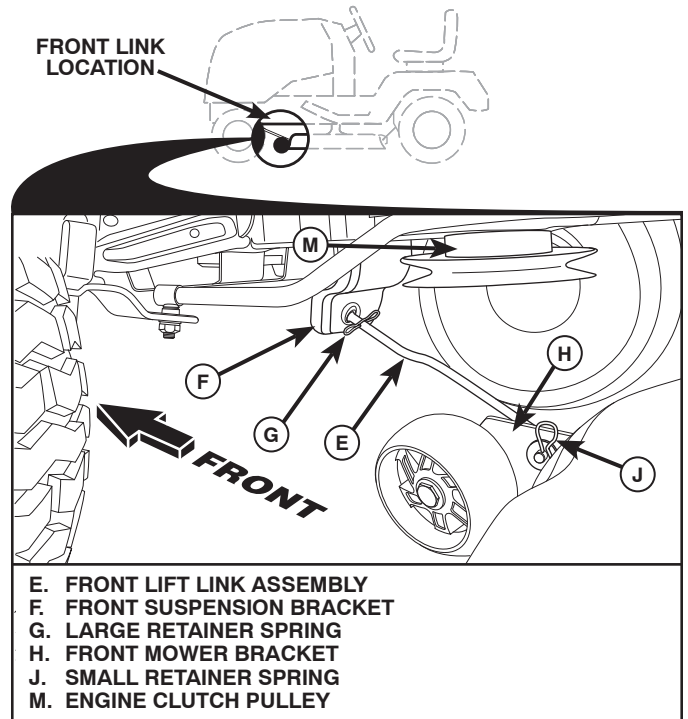

Fig. 30
8 ATTACH FRONT LINK (E) (See Fig.30)
- From front of tractor, insert rod end of front link (E) through front hole in tractor front suspension bracket (F).
- Move to left side of mower and insert large retainer spring (G) through hole in front link (E) behind front suspension bracket (F).
- Insert other end of link (E) into hole in front mower bracket (H) and secure with washer and small retainer spring (J).